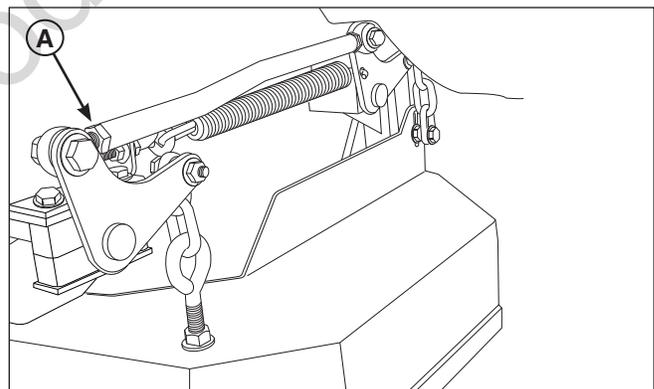

Figure 39. Adjust the Lift Rod Lengths
6. Refer to Figure 39. To adjust the lift rod, loosen the jam nut on the front ball joint then remove the 1/2" hardware fastening the ball joint to the lift pivot arm. Turn the ball joint CLOCKWISE to shorten the distance between the rod pivots or COUNTER-CLOCKWISE to lengthen the distance between the rod pivots. Reinstall the ball joint on the lift pivot arm and secure with the 1/2" hardware previously removed. Tighten the jam nut against the lift rod.